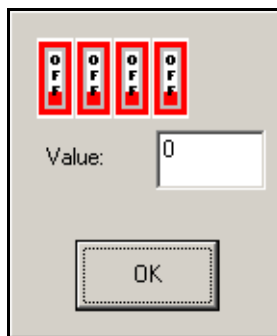

Figure 11-6 The drive switches window.
16. If your operating system is not included in the Drive Configuration Presets window, tap **Switches** in the Drive Configuration window. This opens the Drive Switches window (Figure 11-6). You can set the drive switches manually here.